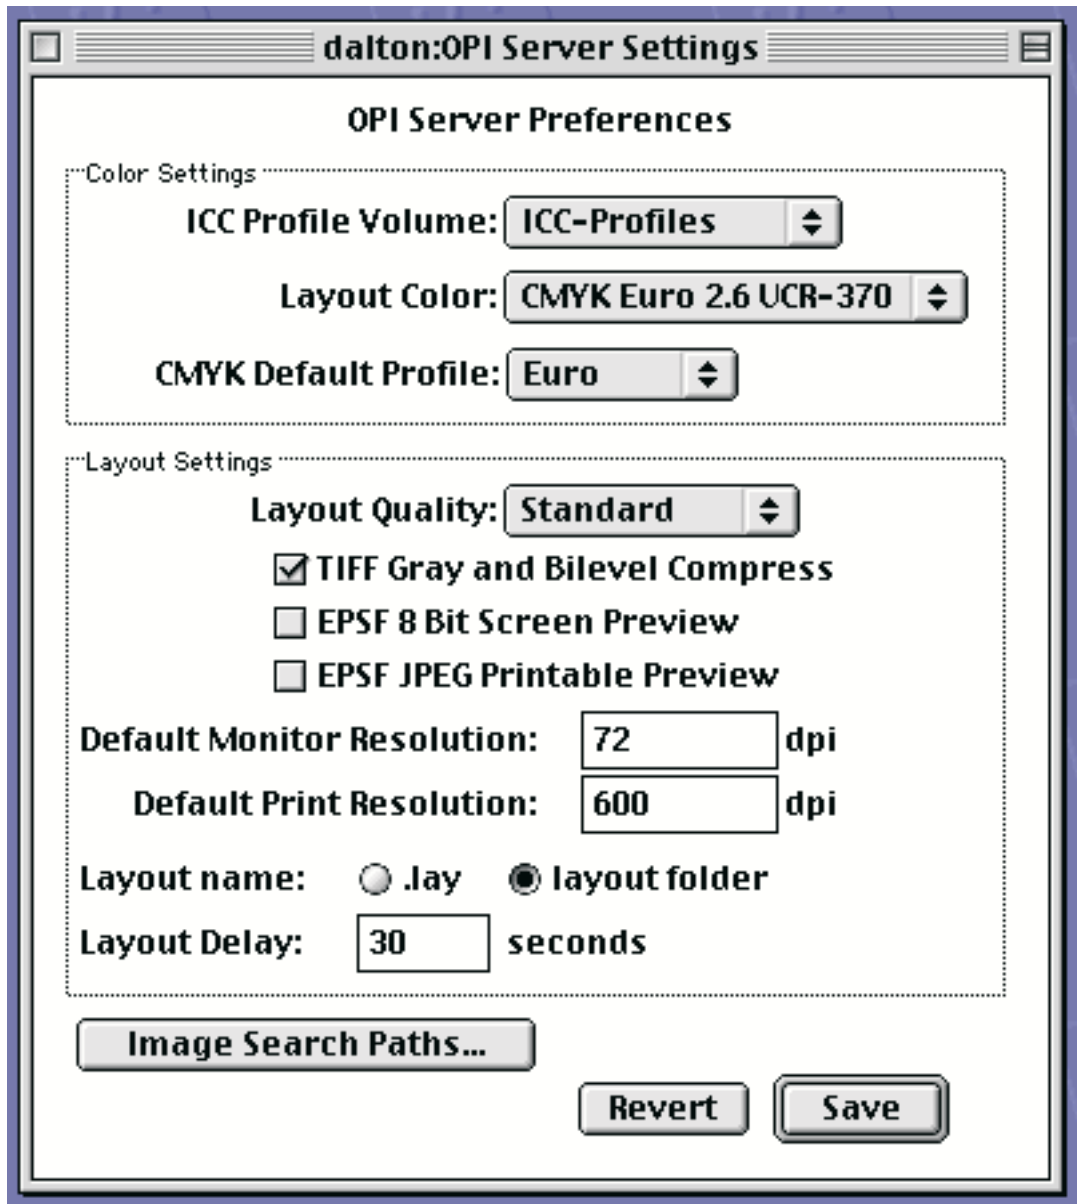

Figure 85. OPI Server Settings window
5. Once you have created the print queue, use the **Lists → OPI/Server Settings** path on the main menu to display the layout and color settings. Usually the default values are sufficient. From the window displayed in Figure 85 on page 371 below, select a name for your print queue and take the defaults before pressing the **Save** button.